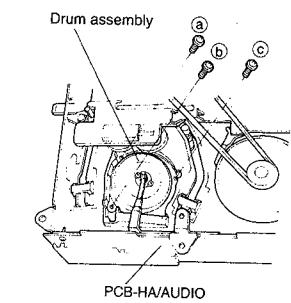

Fig. 2-10-1
- ① Remove the cassette housing. (Refer to Para. 2-1 for the removal method.)
- ② Remove the PCB-HA/AUDIO. (Refer to Para. 2-8 for the removal method.)
- ③ Unscrew the three screws (Ⓐ, Ⓑ and Ⓒ) on the reverse side of the deck and remove the drum assembly. (Refer to Fig. 2-10-1.)
- ④ Slowly raise the drum assembly upward, take care not to touch other parts around it. (Do not touch the tape running surface of the drum with your hand.)
- ① Carefully place the new drum assembly on the main plate of the deck, take care not to touch other parts.
- ② Holding the drum assembly, reverse the deck and secure the drum assembly with the three screws (Ⓐ, Ⓑ and Ⓒ). (Tighten the screws in the order Ⓒ→Ⓑ→Ⓐ and finally tighten again Ⓒ.) (Refer to Fig. 2-10-1.)
- ③ Install the PCB-HA/AUDIO.
- ④ Slightly raise the drum assembly in the opposite direction of the pins. Remove the pins of the drum assembly and of the rotary transformer from the PCB-HA/AUDIO. Slowly remove the drum assembly, take care not to touch other parts around it.
- ① Carefully place the drum assembly on the main plate, take care not to touch the other parts around it. The pins of the drum assembly and the rotary transformer must enter the holes of the PCB-HA/AUDIO.
- ② Secure the drum assembly with the three screws (Ⓐ, Ⓑ and Ⓒ) on the reverse side of the deck. (Tighten the screws in the order Ⓒ→Ⓑ→Ⓐ and finally tighten Ⓒ again.) (Refer to Fig. 2-10-1.)